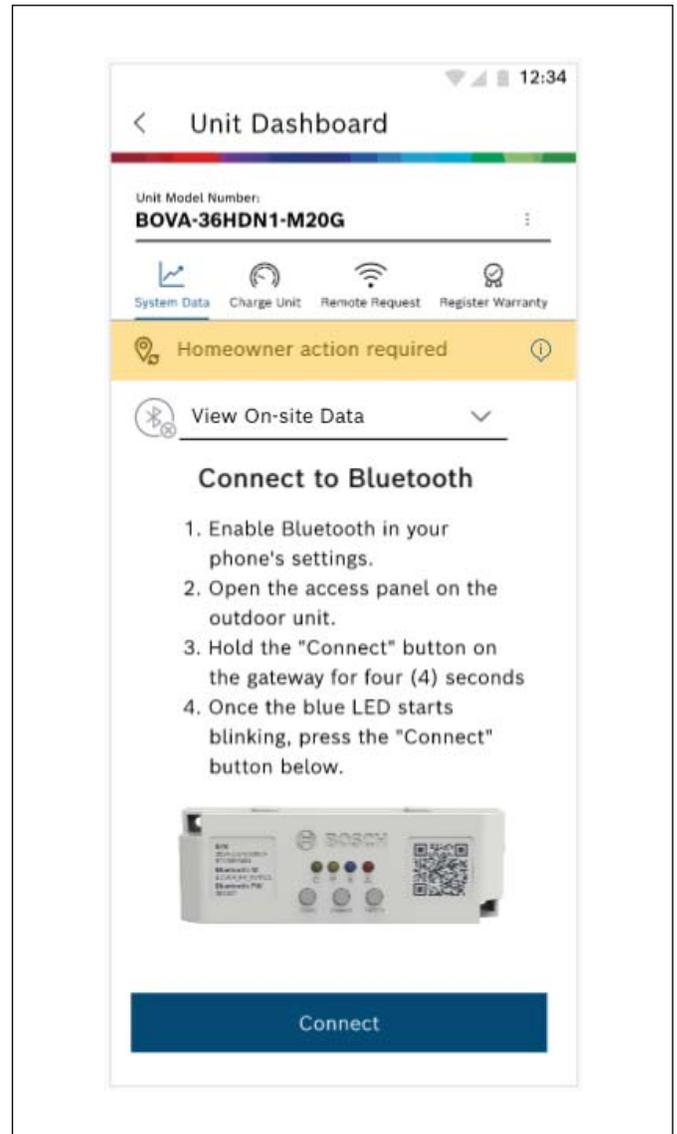

Figure 20
25. Tap on "System Data" and follow Bluetooth connection instructions (Refer to Figure 20).